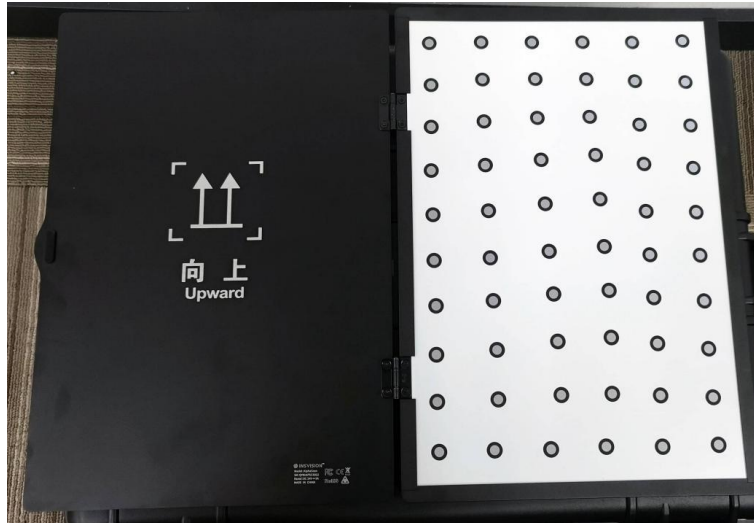

Figure 2: Rapid Calibration plate
(2) Calibration plate: Used to quickly calibrate the camera parameters of the scanner before using. It is recommended to use the calibration plate for camera calibration before each accuracy measurement. The appearance of the calibration plate is shown in Figure 2.